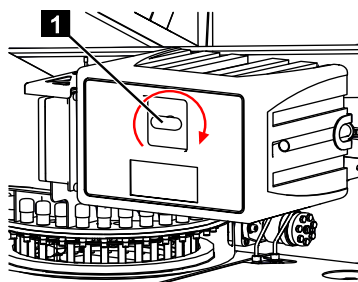

Fig. 213
3. Turn the lock (Fig.213/1) clockwise and pull the flap back.
4. Push the cap onto the lock (Fig.213/1).